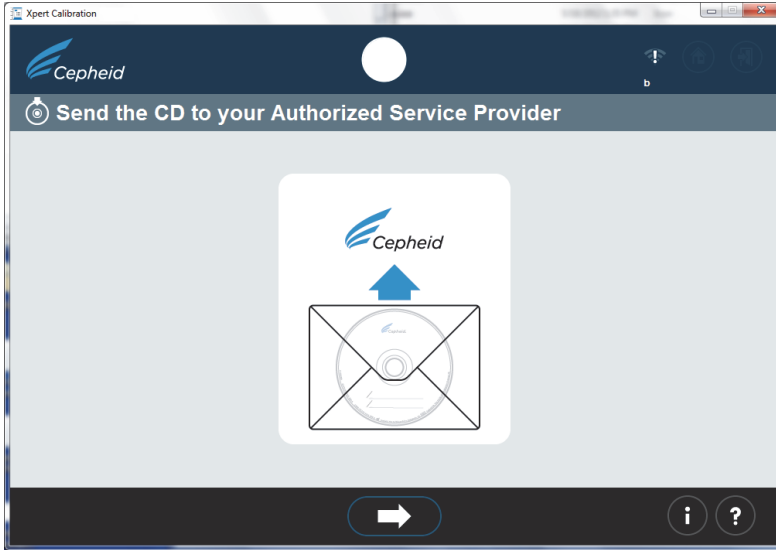

Figure 37. Send the CD to your Authorized Service Provider Screen
- h. After clicking the **Finish** button on the CD writing screen, the **Send the CD to your Authorized Service Provider** Screen will appear (see Figure 37). Remove the completed calibration Data CD 2 from the disk drive and prepare the label, as described in step 29.